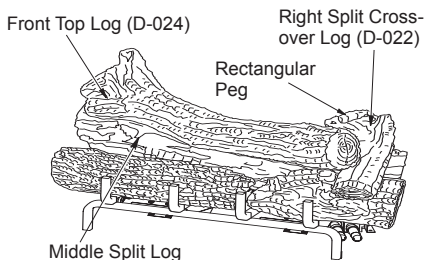

Figure 30 - Installing Front Top Log
- Find the front top log (D-024). See Figure 30. The left end of this log has a square hole that fits over a square peg that is on the top of the middle split log. The right end of this log rests behind the knot on the top of the front right log.